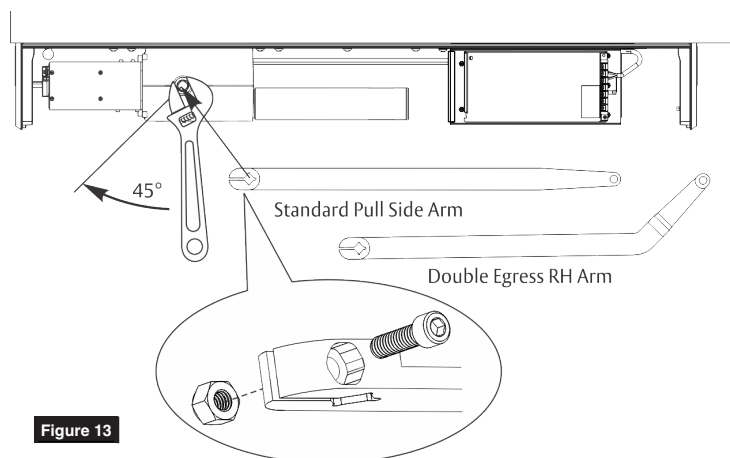

Figure 13
1. Using an adjustable wrench, rotate top pinion 45 degrees toward door hinge. You will feel resistance from spring. (Figure 13)
2. **While holding pinion at 45 degrees**, slide arm on bottom pinion at orientation shown. (Figure 13)
3. Using hex wrench, secure arm to pinion with screw and nut. (Figure 13)